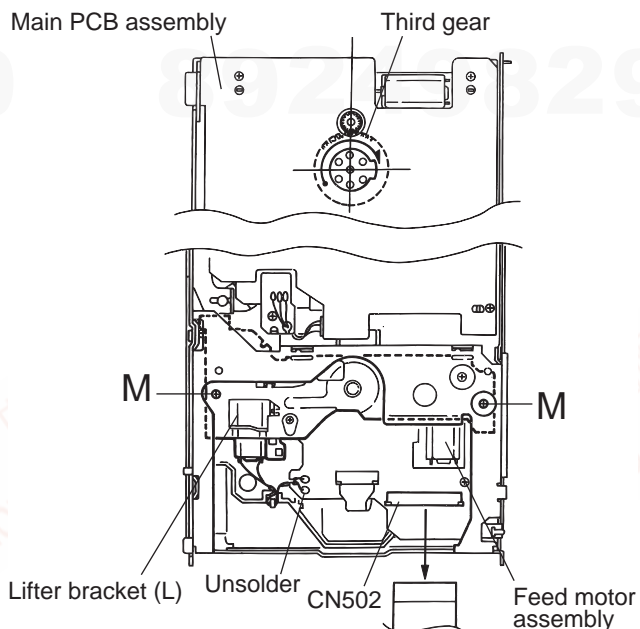

Fig.38
3.2.13.8 Pickup replacement procedure (See Fig.38 to 44)